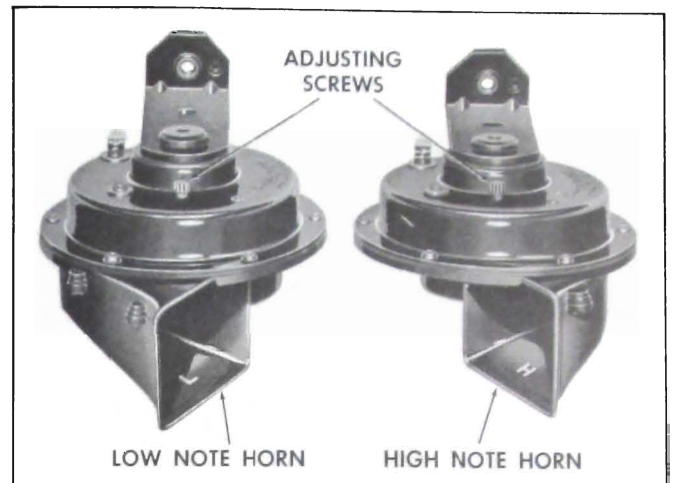

Figure 10-52—Matched Horn Set
3. Adjust to specified current draw if necessary, by turning adjusting screw clockwise to decrease or counter-clockwise to increase current draw. See Figure 10-52.